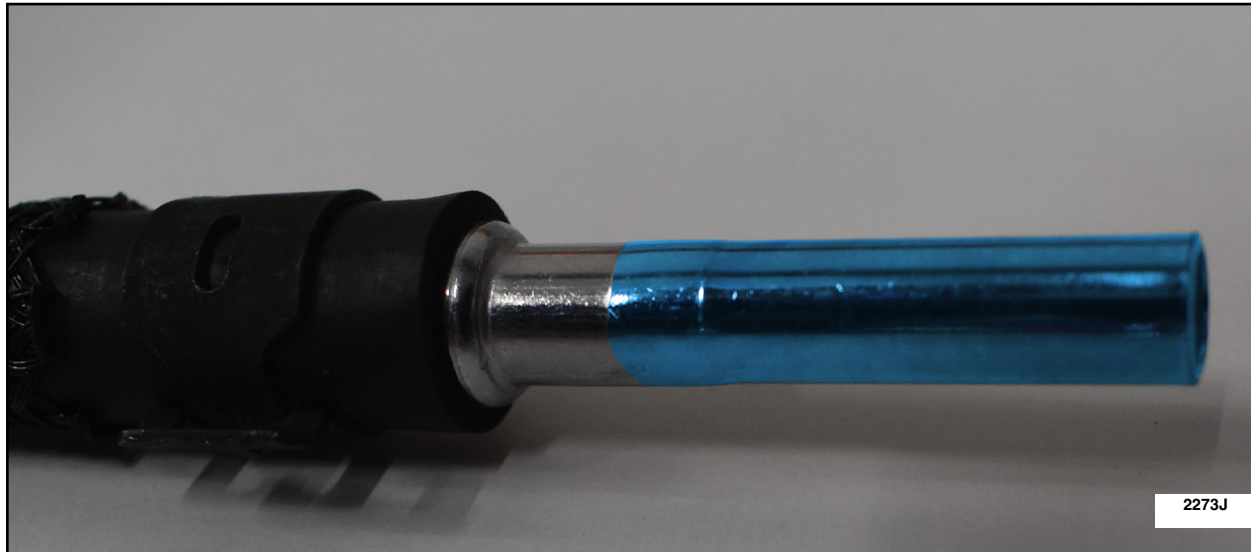

FIGURE 12
15. Apply Loctite® (SF) 7649™ Primer to the metal tube, as shown in the blue highlighted area. Allow one minute for primer to cure. See Figure 12.